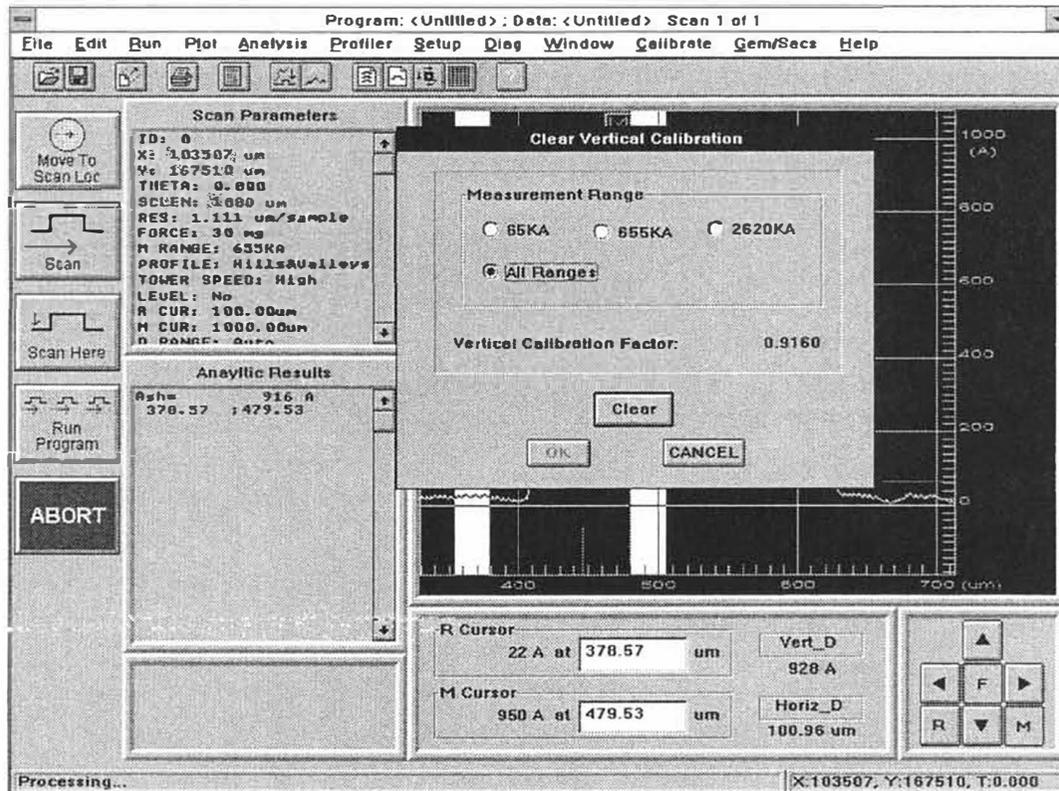

Figure 10-5. Clear Vertical Calibration Dialog Box
1. Click-on "Calibrate" and click-on "Clear Vert. Calibration" from the menu, the clear vertical calibration dialog box will be displayed (see Figure 10-5).